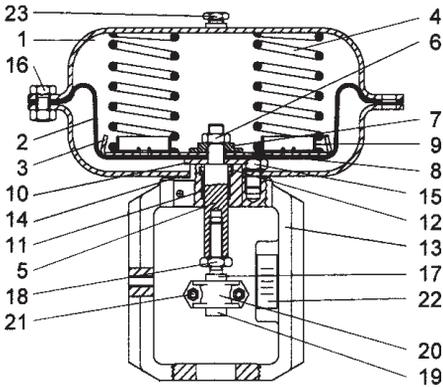

Fig. 1
2.1 Fitting Actuator to Valve PN3000 (Refer to fig. 1)